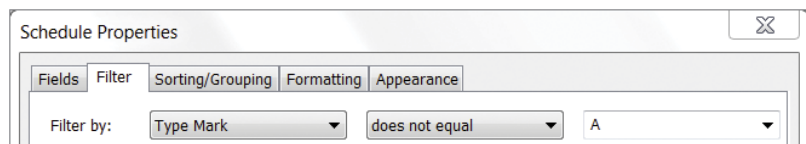

FIGURE 12.3 Schedule filter
5. Click the Filter tab at the top of the dialog. Choose to filter by Type Mark, and then click does not equal from the drop-down list to the right. Finally, choose A from the last column. This allows you to remove certain window types from your New Window Schedule when desired (Figure 12.3).